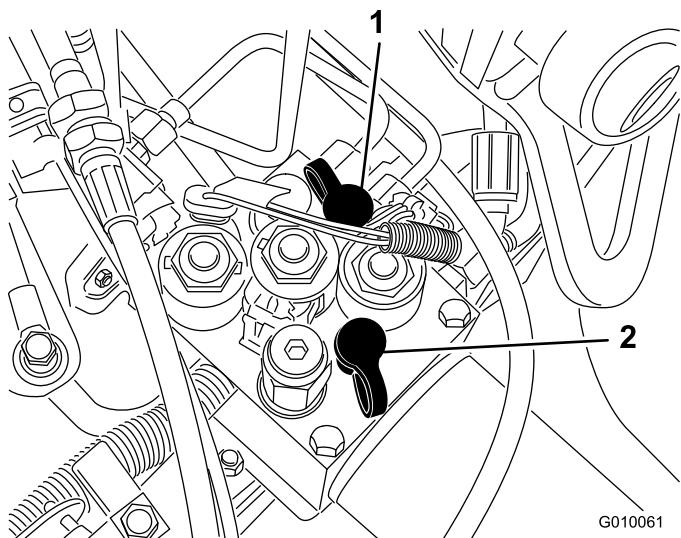

Figure 60
- Test Port G 2 (Figure 60) is used to assist in troubleshooting the traction charge circuit.
- Test Port G 1 (Figure 60) is used to assist in troubleshooting the lift circuit pressure.